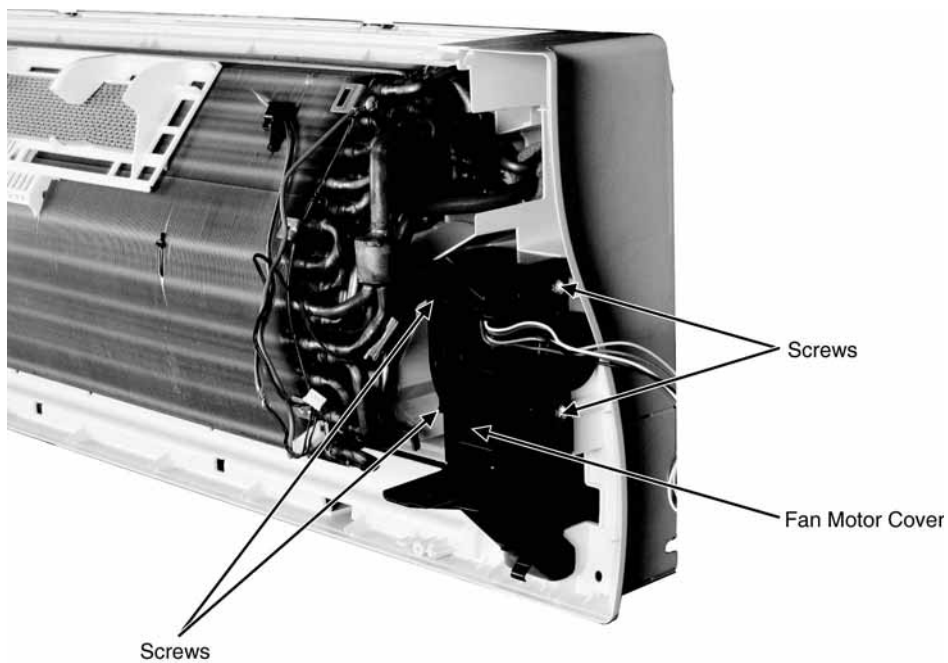

Fig. 11
6. Remove the Fan Motor Cover by removing four screws from the Fan Motor Cover. (Fig.11)